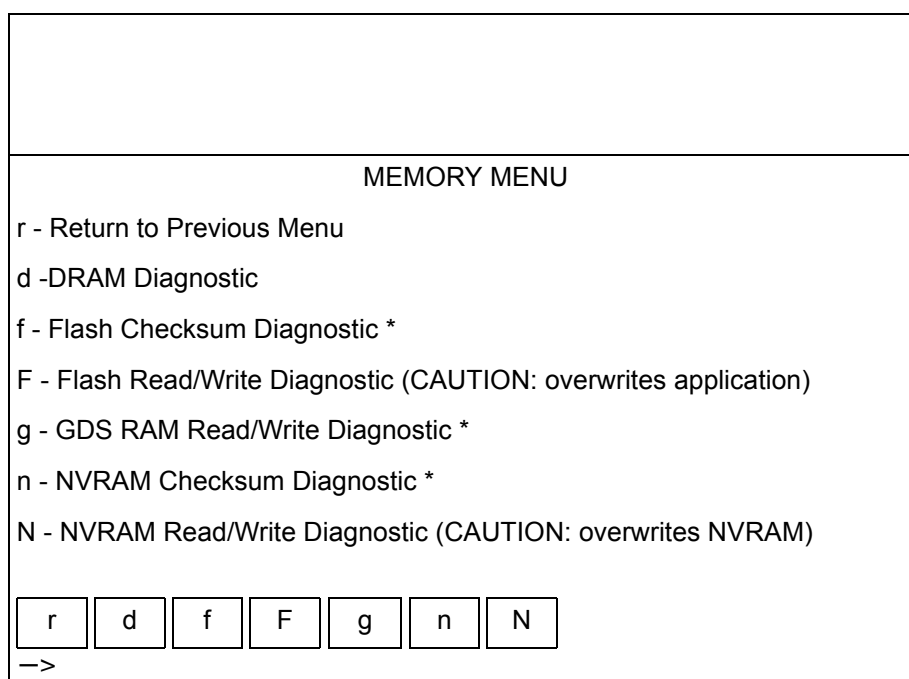

Figure 5-7: Memory Menu
m — Requires a data key (Spacelabs field service engineers only). Displays the **Memory** menu (*Figure 5-7* on page 5-9), which allows the display, modification, copying, and filling of any memory or address space accessible to the CPU.
- m** — Requires a data key (Spacelabs field service engineers only) for some functions. Displays the **Memory** menu (Figure 5-7).